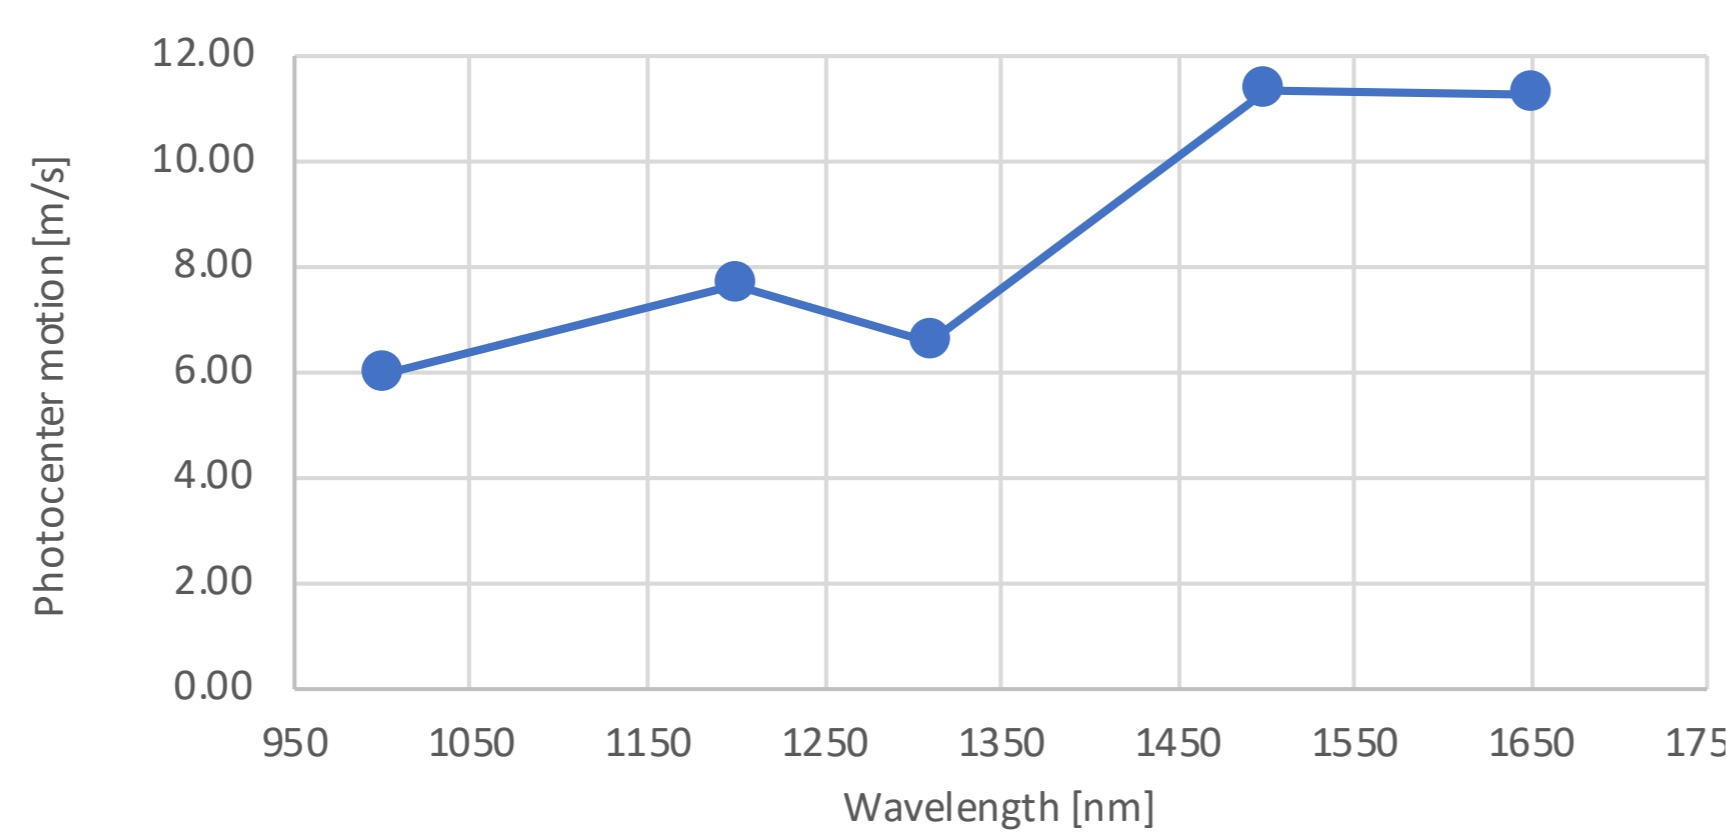

Fig. 3 - Photocenter instability in the near-field of the 0.4" fiber
- Modes well separated: low scrambling efficiency and high modal noise, ~20 times higher than for HARPS (Fig. 3)